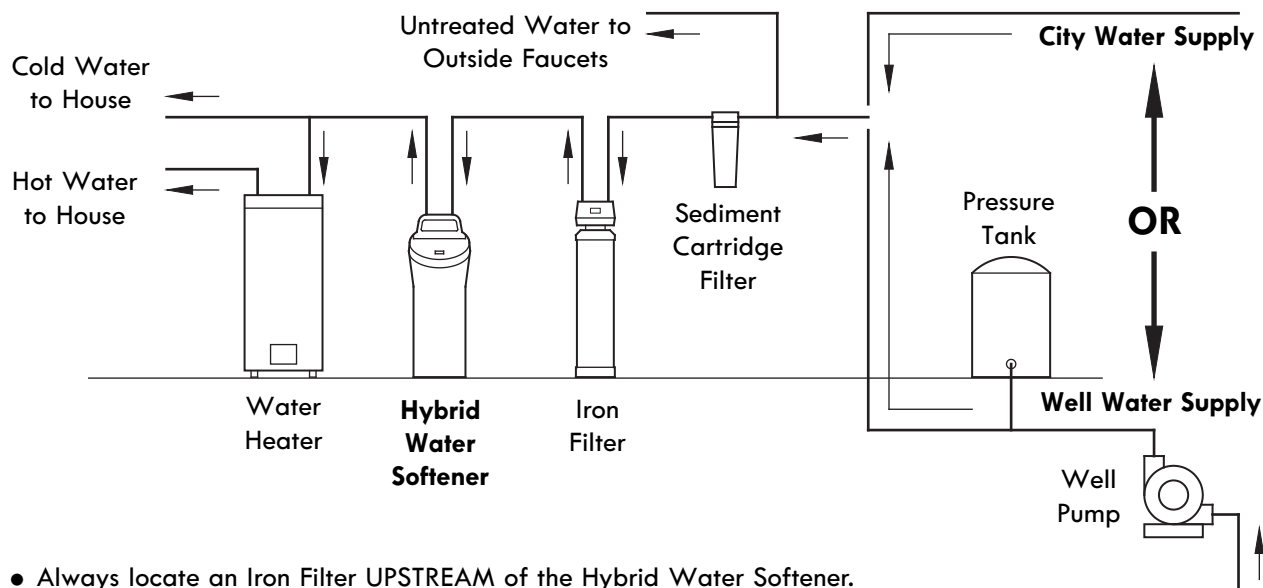

Figure 3
3. Connect to the house main water pipe **UPSTREAM OF THE WATER HEATER** (See Fig. 3). The temperature of water going through the softener must not be more than 100°F (38°C). Hot water will damage inner softener parts. To reduce the risk of hot water backup, piping between the softener and water heater should be as long as possible.